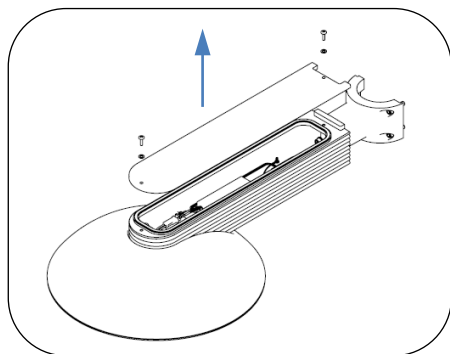

Fig. 1 – Remove access panel
2. Using a Phillips screwdriver, remove (2) ¼-20 machine screws and sealing washers to remove the luminaire cover. See Fig. 1. Set aside, retain hardware.